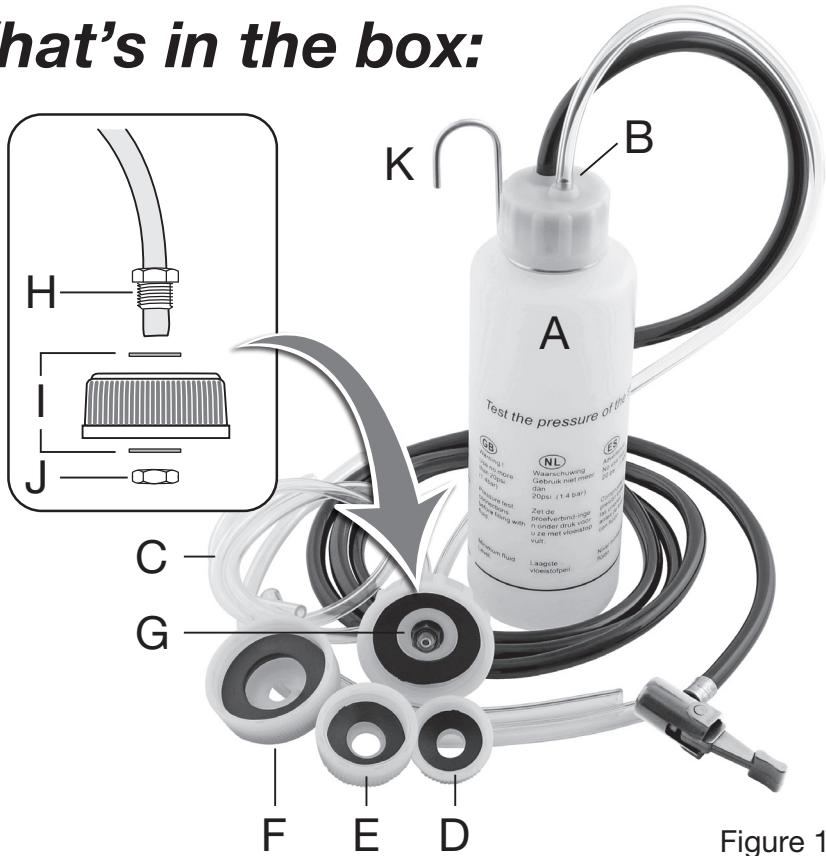

Figure 1
1. Remove the vehicle's reservoir cap, select the appropriate screw cap and connect it to the device as shown in the diagram (Figure 1). Then connect to the reservoir.
- Choose the correct supplied reservoir cap adaptor **D, E F, or G** (refer to **Figure 1**); the kit is supplied with a selection of reservoir caps which will fit most vehicles with screw-cap type fluid reservoirs. If necessary, the **77042** Multi-purpose cap can be used (not included in the kit — see page 7).